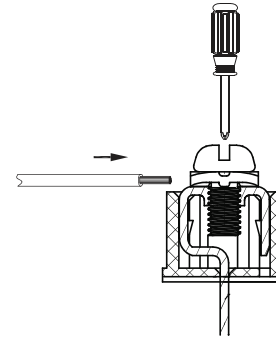

Fig. 19 — Connecting Communication Wire to Outdoor Unit Communication Terminal
- Use a suitable screwdriver to fix the communication wire on the outdoor unit communication terminal as shown in Fig. 19 below.